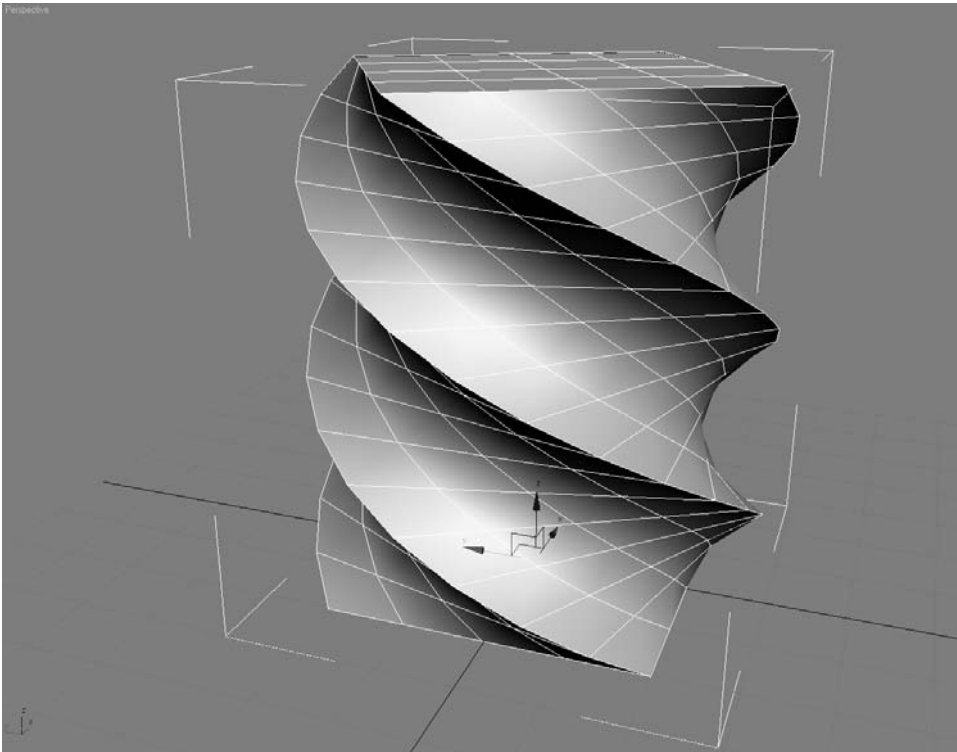

Figure 4.10
6. Click the **Length Segs** parameter spinner and increase the value to **4**. Increase the **Width Segs** to **4** and the **Height Segs** to **16**. As you increase the segments in the original box, the Twist Modifier takes on a much nicer shape. Figure 4.10 shows the box with more segments.